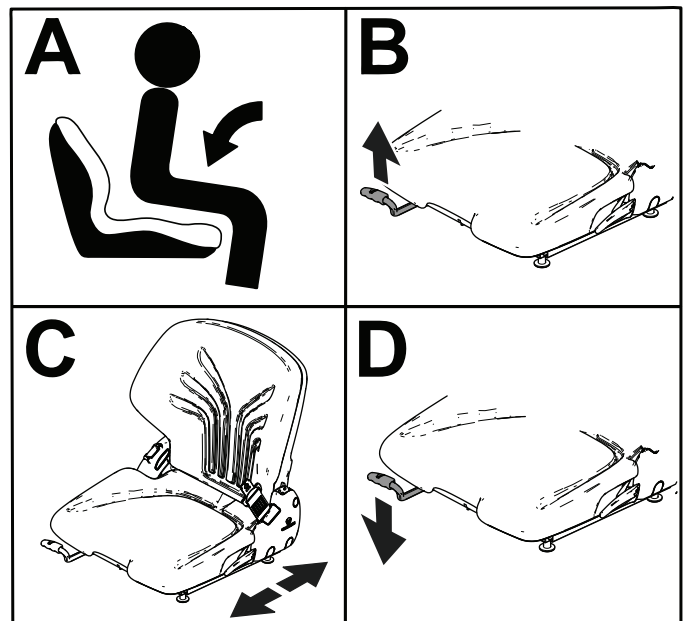

Figure 19
- Tilt the seat forward (Figure 19).
To adjust, pull the lever upward and move the seat forward or rearward (Figure 19).